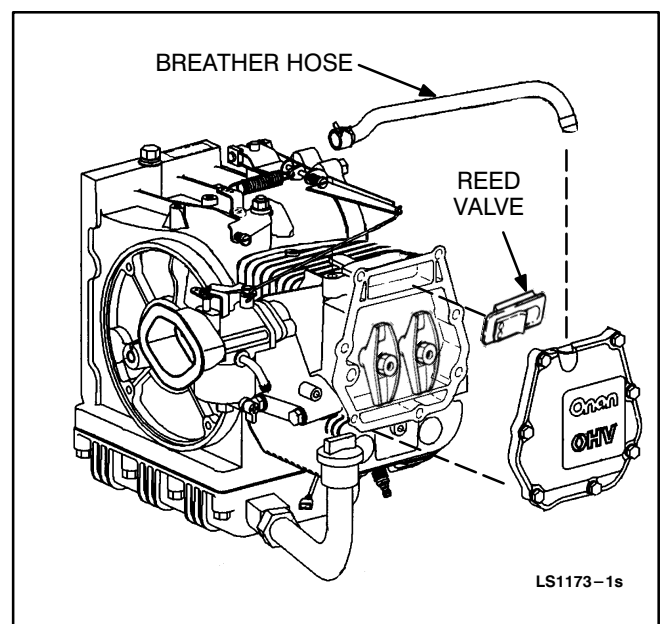

FIGURE 8-6. CRANKCASE BREATHER SYSTEM
1. Remove the breather tube from the valve cover (see Figure 8-6).